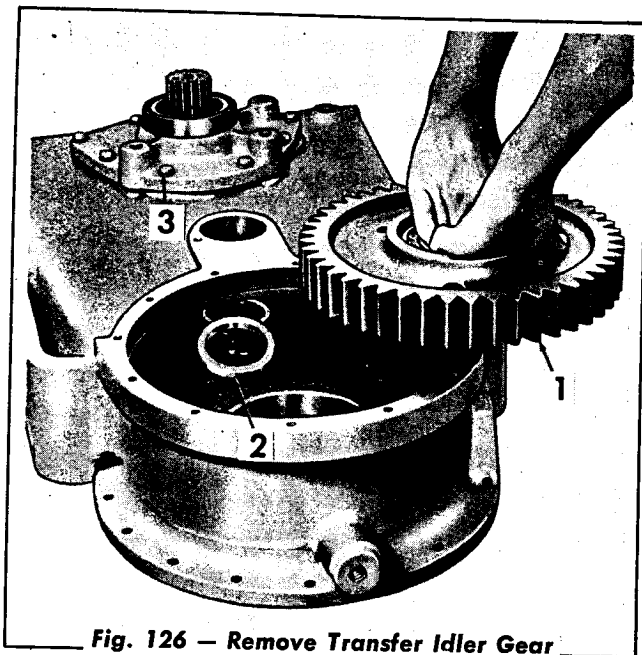

Fig. 126 — Remove Transfer Idler Gear
9. Remove the transfer idler gear and bearing assembly (Fig. 126). Remove the transfer idler gear spacer. Remove the capscrews and lockwashers from the bearing retainer.